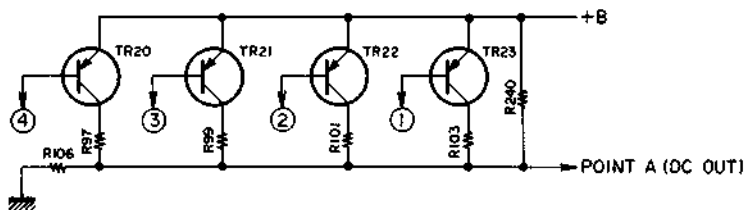

Fig. 30
The bias oscillation voltage can be varied as follows: In Fig. 30, the DC voltage at point A is varied by means of control signals ①, ②, ③ and ④.